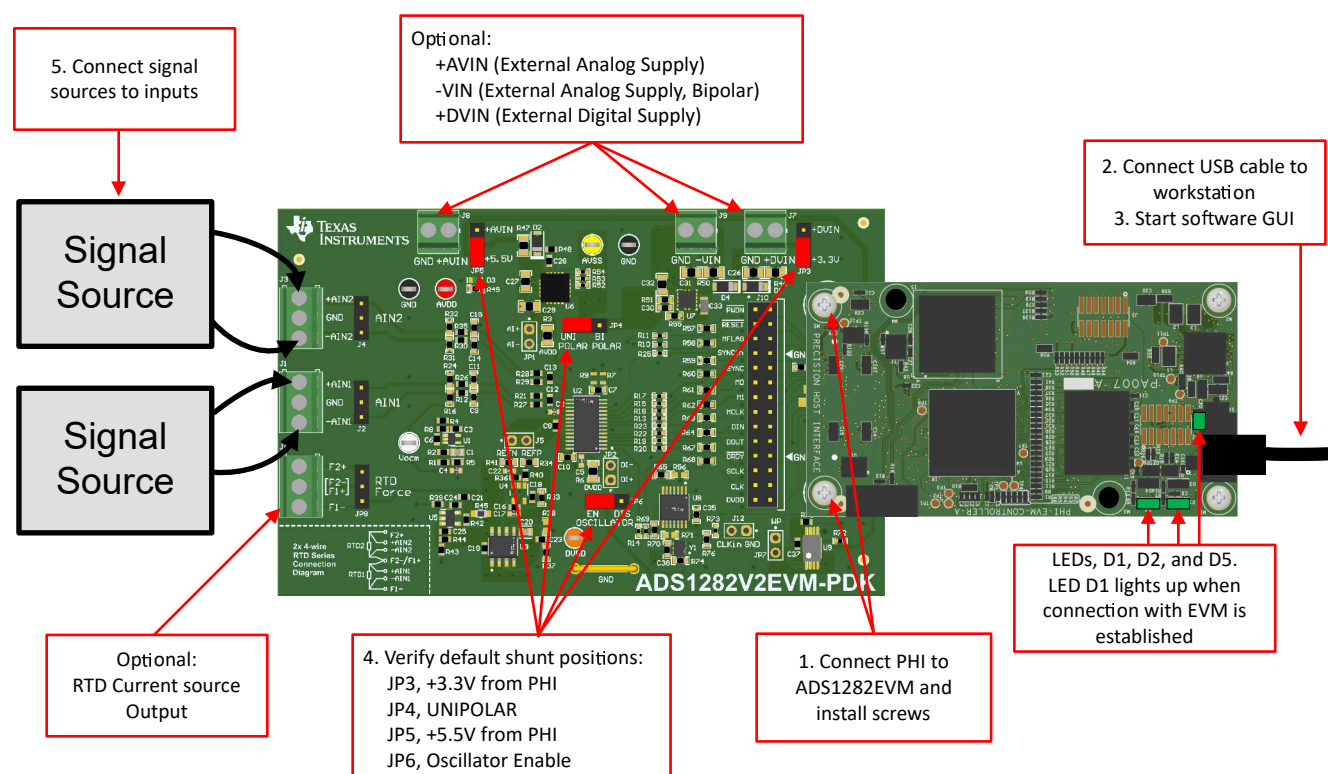

Figure 4-1. Connecting the Hardware to the ADS1282EVM
Connect the EVM as shown in Figure 4-1 after installing the software:
- b. LED D1 and LED D2 on the PHI start blinking to indicate that the PHI is booted up and communicating with the PC; Figure 4-1 shows the resulting LED indicators.